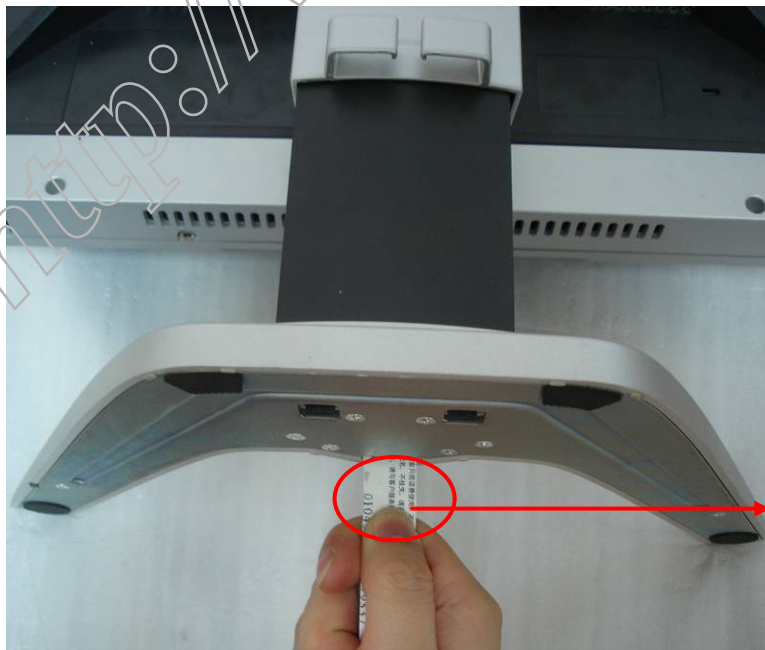
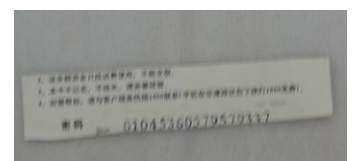

Fig2.1
Fig2.2
Step 2: Insert a sheet, as Fig 2.2, to the base stand as Fig 2.1.